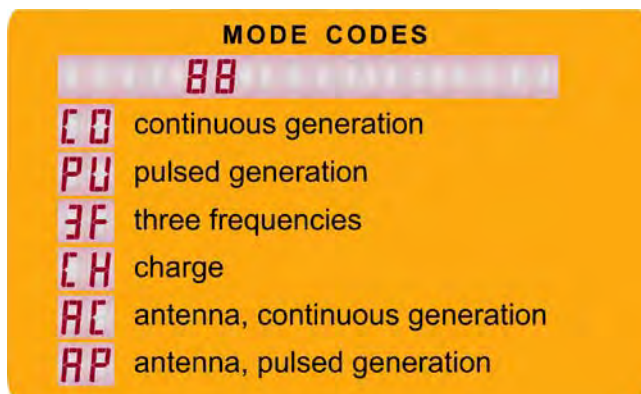

Fig. 11.8
2) Depending on the task, to set the mode the buttons «↵» or «⇓» (cycle) pos.5 figure 11.7 are used to select on the field “MODE” the symbol depicting the required generation mode or mode of internal accumulators charging. The mode codes are shown on figure 11.8. If the transmitting antenna is connected to the output, the signal «AC» is indicated (mode «antenna, continuous»). The selection in this case is possible only between modes «AC» and «AP» (mode «antenna, pulsed») directly by the buttons «⇓» or «↵».